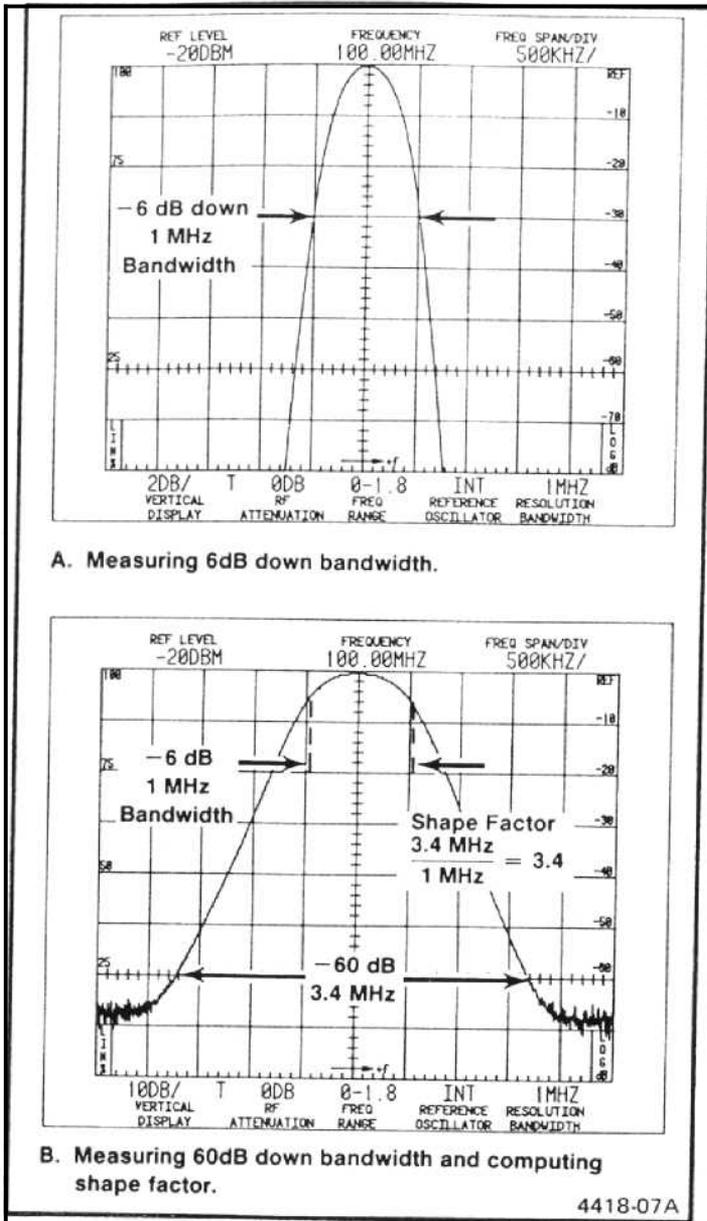

Figure 5-5. Displays that illustrate how bandwidth and shape factor are determined.
d. Calculate the shape factor as the ratio of 60 dB/6 dB down bandwidths (see Figure 5-5). Shape factor should equal 7.5:1 or less.